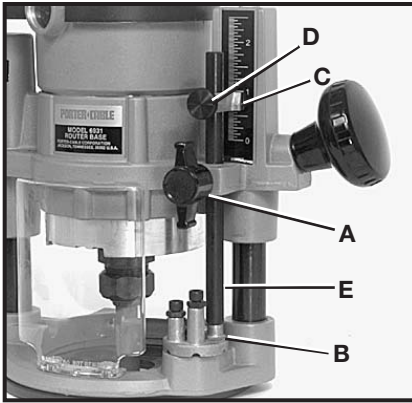
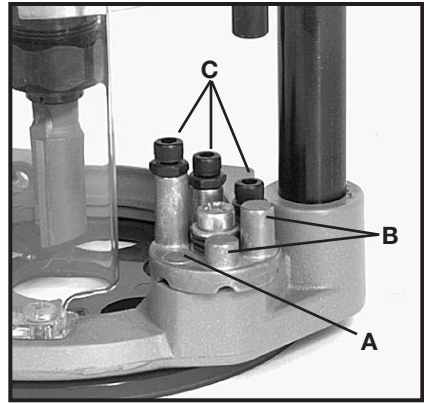
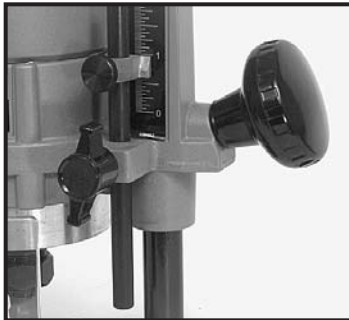

Fig. 10
Fig. 11
Fig. 12
1. Loosen depth rod locking knob (A) Fig. 10, and depth indicator knob (D) Fig. 10, allowing the depth rod (E) Fig. 10 to contact one of the turret stops (B) Fig. 10. Normally the deepest desired cut is set with the depth rod resting on the shortest turret stop (A) Fig. 11. The other two fixed stops (B) Fig. 11 provide reduced cutting depths of 1/4" and 1/2" respectively. The three adjustable stops (C) Fig. 11 may be adjusted to any desired height. Any combination of fixed and/or adjustable stops may be utilized to achieve the desired depths required for a particular job.
4. Position depth indicator (C) Fig. 10 at the "0" position and tighten the knob.
5. Loosen depth-rod locking knob (A) Fig 10, and raise until indicator aligns with the graduation representing the desired depth of plunge. (The example in Fig. 12 shows setting for 1" plunge.)